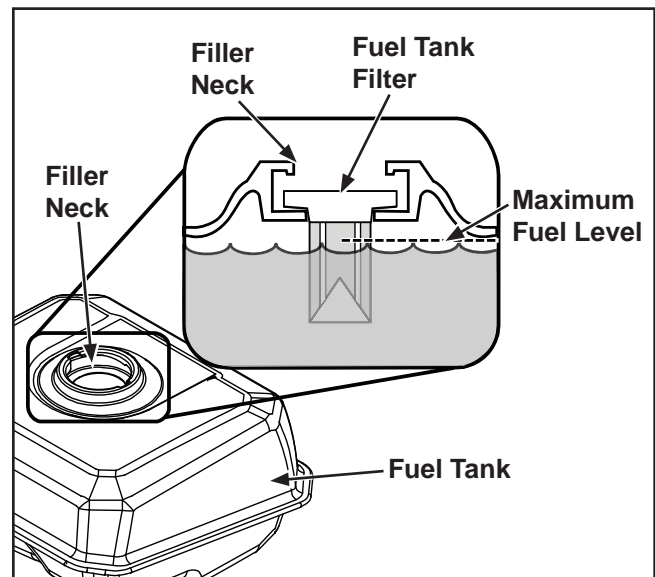

Figure 5-1. Maximum Fuel Level.
- Do not overfill the fuel tank. Leave room for the fuel to expand. See Figure 5-1.